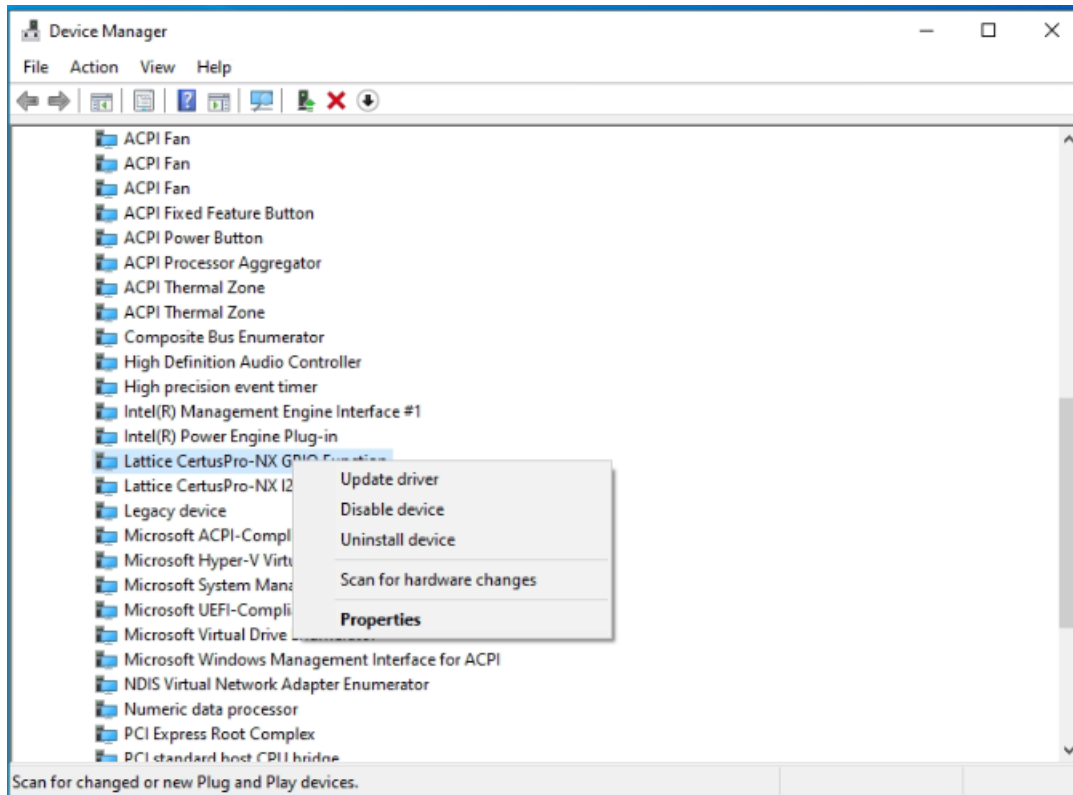

Figure 5.33. Select “Uninstall device” that User Want to Uninstall
2. Right click on the **device driver** and select **Uninstall device** as shown in Figure 5.33.